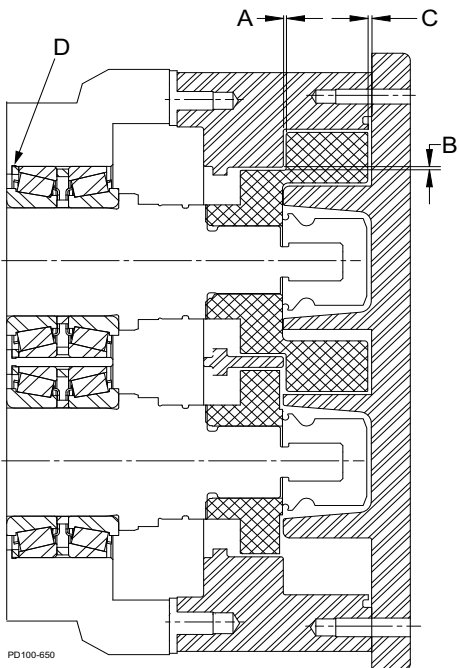

Figure 218 - Clearance Measurements
- With feeler gauges, measure the rotor backface clearance (Figure 218, item A), through the port or from the front.
- Measure the rotor front face clearance (Figure 218, item C).
- Measure the rotor to body clearance (Figure 218, item B).
- To make shim adjustments, first remove the rotors, body and shafts. Make the required shim adjustment and reassemble. (Figure 218, item D is the front bearing rear shim.)